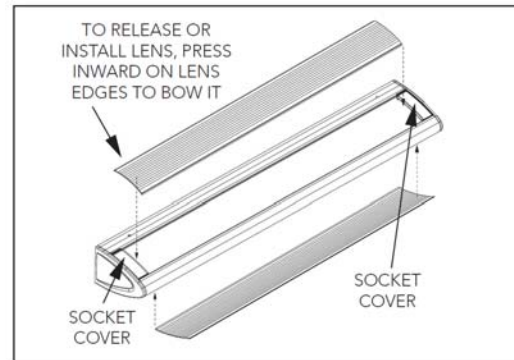

Figure 9
4. Two lenses were provided with the fixture. The lenses are interchangeable and can be used with either lamp compartment. One edge has a flat lip that fits into a channel in the Housing. The other edge has a raised finger hold. Make sure that the Socket Covers are pushed to the ends of the fixture. Install the lens by fitting the flat lip into the channel first and then use the finger hold to bow the lens until the edge fits into the opposite channel. (See Figure 9)